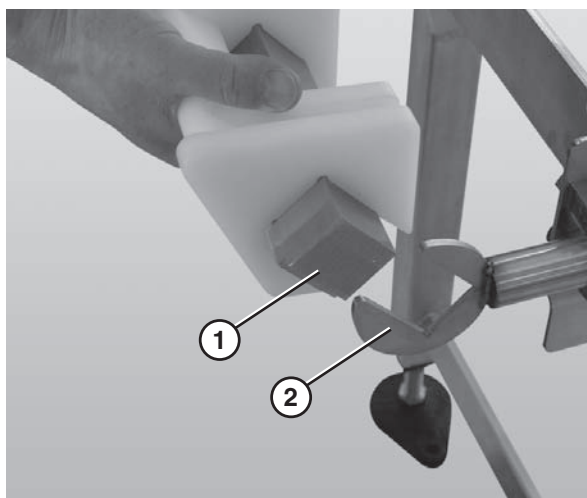

Figure 14
4. Attach the nose bar transfer post (**Figure 14, item 1**) to the nose bar idler shaft hands (**Figure 14, item 2**).